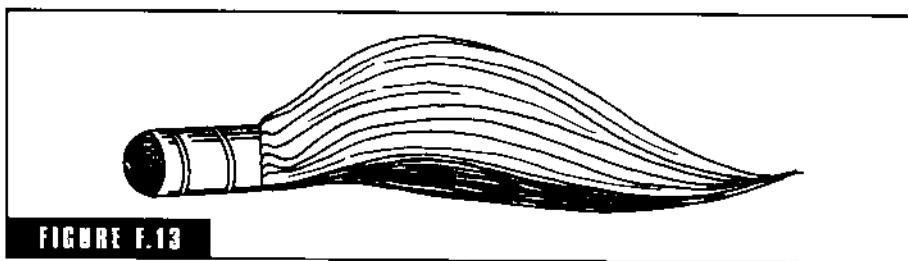

FIGURE F.13
**flax swab** Also called a *horse tail*, it is used to swab the sand around the pattern at the junction of pattern and sand (Fig. F-13). To prevent it from breaking away when the pattern is rapped and lifted from the sand, it is dampened by dipping it into a pail of water and shaking it out well. Used on floor work where the pattern presents a fair-sized perimeter.